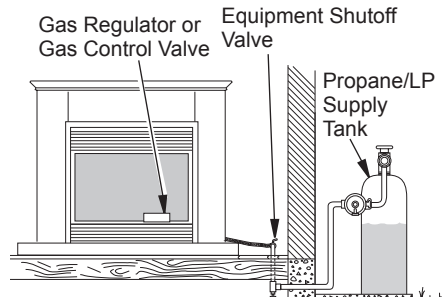

Figure 27 - Checking Gas Joints (Propane/LP Only)
3. Check all joints from gas meter to equipment shutoff valve for natural gas or propane/LP supply to equipment shutoff valve for propane/LP (see Figures 27 or 28). Apply noncorrosive leak detection fluid to all joints. Bubbles forming show a leak.
4. Check all joints from equipment shutoff valve to gas regulator (Thermostat-Controlled Models), or to gas control valve (Remote-Ready Models) (see Figures 27 or 28). Apply noncorrosive leak detection fluid to all joints. Bubbles forming show a leak.